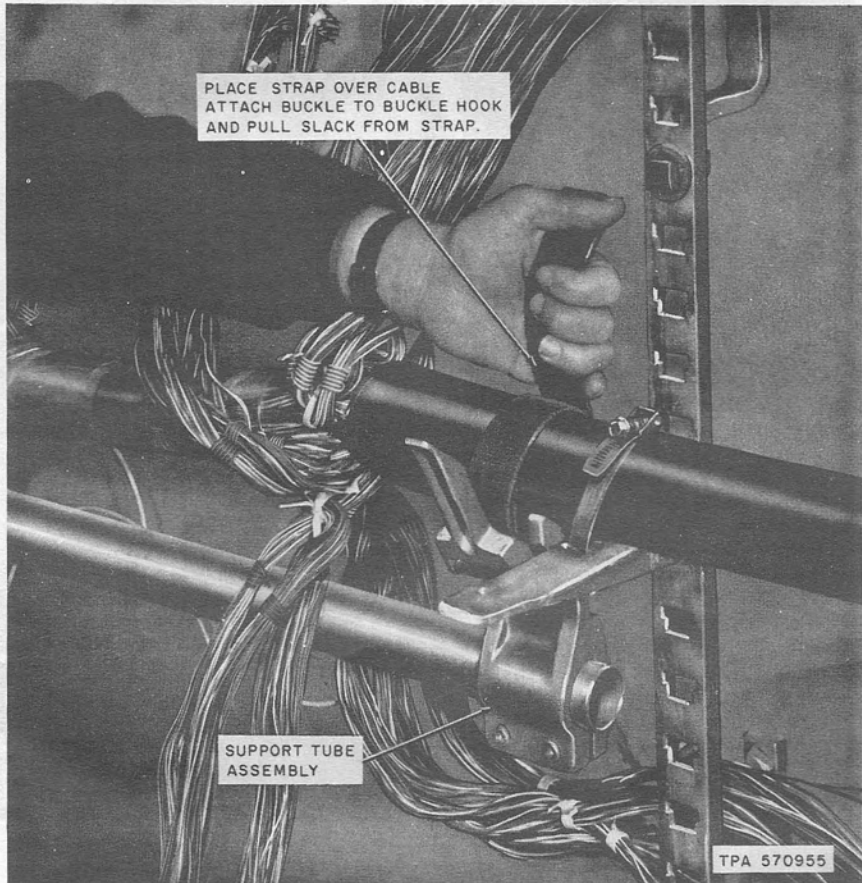

Fig. 7—Placing Support Tube Strap Around Cable
- (1) With the buckle hooks toward the back, place the support tube under the cable and center it with the splice opening.
- (2) Place the strap over the cable, and adjust the buckle until it can be easily slipped over the buckle hook (Fig. 7).
- (3) With the latch in the up position, pull most of the slack from the strap.